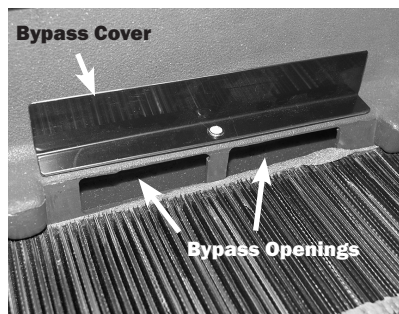

Figure 4
**Above 90°F** - When operating the Phoenix R175 above 90°F, reposition the bypass cover to open the bypass holes, figure 4. This improves dehumidifier efficiency by increasing the amount of airflow across the condenser. This also slows airflow across the evaporator giving the hotter air more time to reach dew point, thereby increasing dehumidifier capacity. These higher temperatures are often found after the first 24 hours of a drying job.